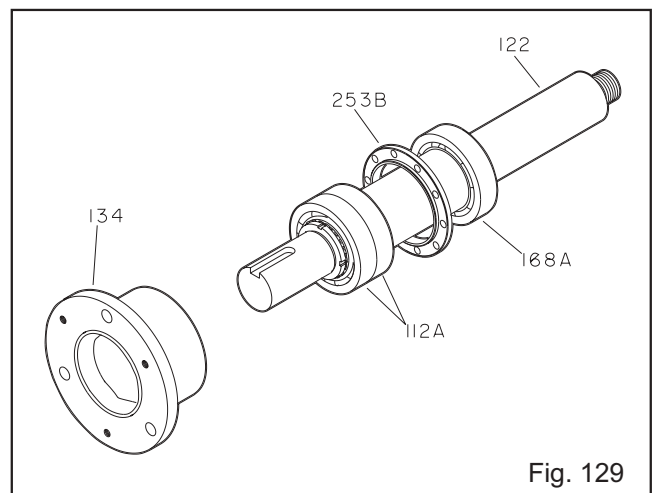

Fig. 129
8. Coat outside of outboard bearing (112A) and bore of bearing housing (134) with oil.
9. Lower shaft/bearing assembly into bearing housing (134) (Fig. 129).